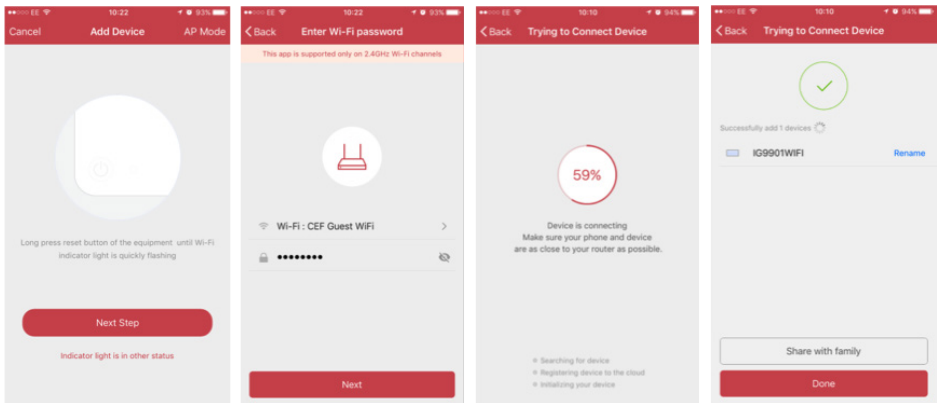

fig.1
- Follow the steps on your screen to add the device (fig.1)